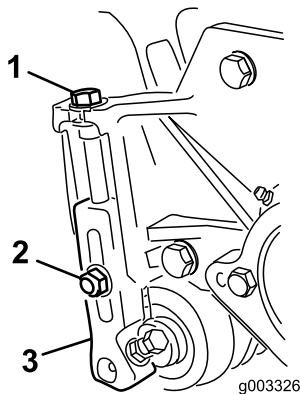

Figure 15
1. Loosen locknuts securing height-of-cut arms to cutting unit side plates (Figure 15).